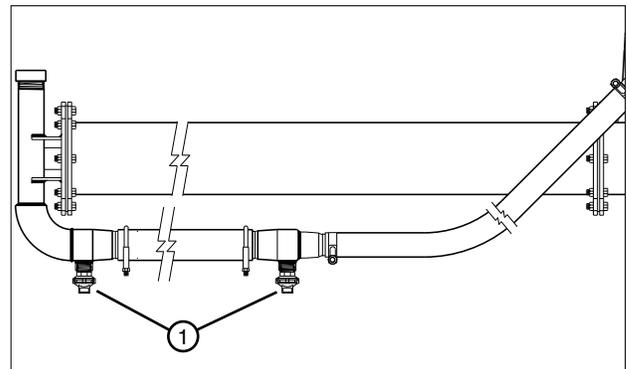

Figure 53-2 1. Booster Pump Hose Drain
- Make sure the booster pump hose drain is not plugged with sand. See figure 53-2.